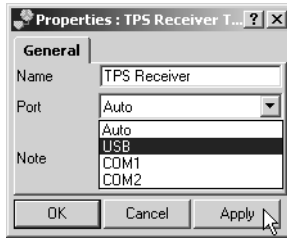

Figure 2-7. Select COM Port
3. Select the computer port (serial or USB) the receiver is connected to (Figure 2-7 on page 2-5).